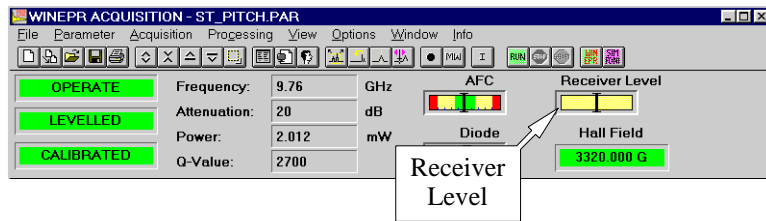

Figure 8-9 The Receiver Level display.
11. **Adjust the Receiver Gain.** Monitor the Receiver Level while the scan is running. (See Figure 8-9.) If the needle deflects more than 1/4 of the display, lower the Receiver Gain. Reacquire the spectrum and lower the Receiver Gain until the needle does not deflect more than 1/4 of the display. You may have to repeat this last step a few times.